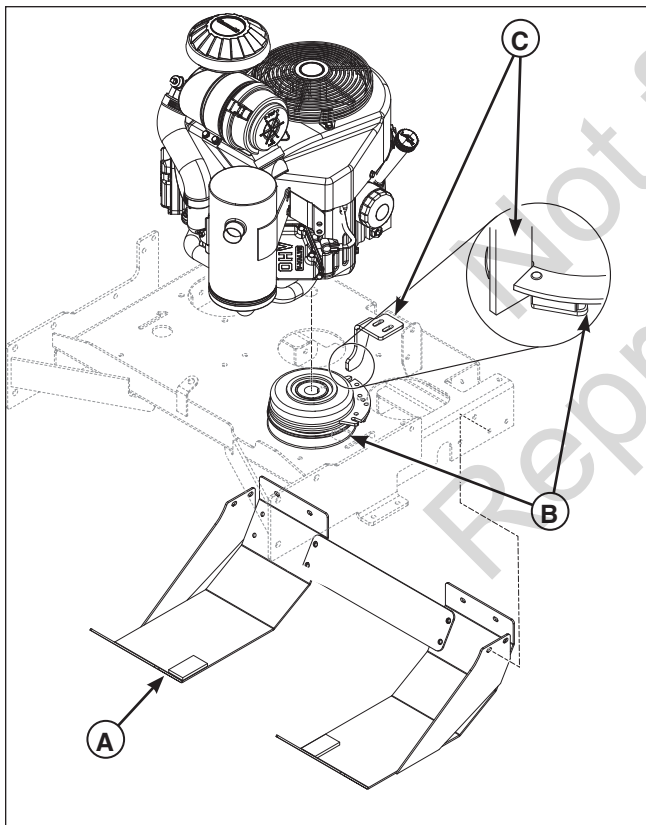
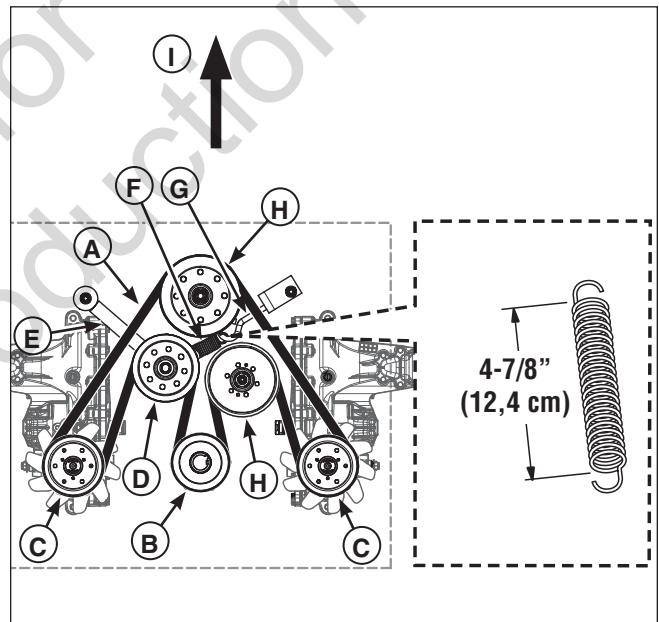

Figure 31. Remove the PTO Clutch Mounting Tab
Figure 32. Hydraulic Pump Drive Belt Replacement
2. Loosen and remove the hardware that secures the skid plate assembly (A, Figure 31) to the engine deck. Remove the skid plate assembly from the engine deck.
5. Unplug the PTO clutch wire harness from the PTO clutch (B).
6. Loosen and remove the hardware that secures the PTO clutch mounting tab (C) to the engine deck. Remove the PTO clutch mounting tab.
7. Loosen the nuts on the spring anchor eyebolt (G, Figure 32) to release the majority of the belt tension. Use caution and remove the nut to completely release the tension.
9. Reinstall the spring anchor eyebolt (G) into the anchor tab and loosely fasten the nut. Adjust the anchor eyebolt until a coil-to-coil measurement of 4-7/8" (12,4 cm) is achieved. Tighten the nut.
- NOTE: Make sure that the slot in the PTO clutch lines up with the PTO clutch mounting tab (C, Figure 31) underneath the engine deck.